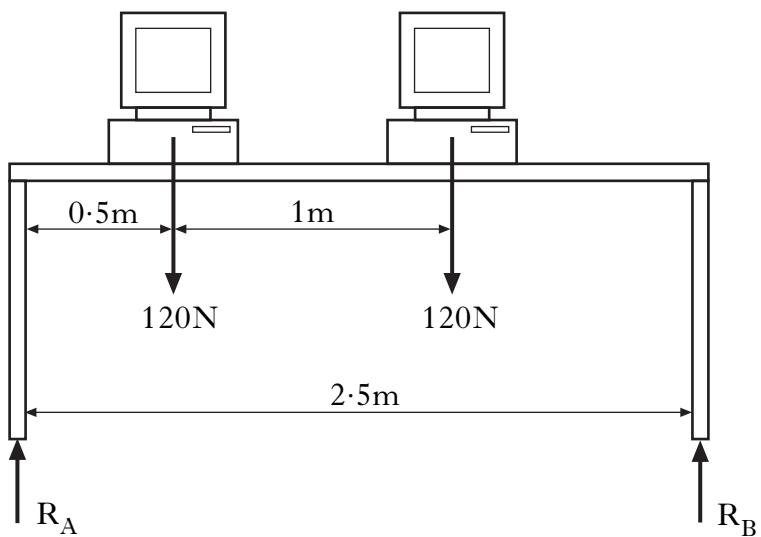

Figure Q8
8. A desk with two computers is shown in Figure Q8.
(a) Draw a free body diagram for the arrangement shown in Figure Q8.